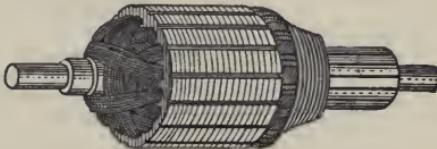
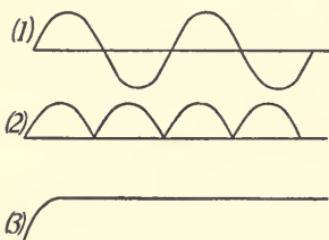

FIG. 289.—A drum armature.
FIG. 292.—Graphic representation of (1) an alternating current; (2) a pulsating current; (3) a continuous current.
insulated copper wire wound in numerous slots cut in the surface of a cylindrical piece of iron. Fig. 289 shows a side view of the iron core of such an armature. Iron is used to form the body of the armature since the magnetic lines of force flow easily through the iron. The iron by its permeability also concentrates and increases the magnetic flux. The best armatures are made of many thin sheets of soft iron. These are called *laminated* armatures. An armature made of a solid piece of iron becomes hot when revolving in a magnetic field. This is due to electric currents induced in the iron itself. This heating is largely reduced by *laminating* the armature. Why?
it continues to flow out of the upper brush. This change in connection at the brushes takes place at each half turn of the armature, just as the current changes in direction in the coils. This is the manner in which the commutator of a dynamo changes the alternating current produced in the armature coils, into a direct current in the external circuit. Fig. 292 (1) represents graphically an alternating current, (2) of the
armature with a corresponding number of segments upon the commutator. (See Figs. 289 and 293.) As each coil and commutator segment passes a brush, it contributes an impulse to the current with the result that armatures with many coils produce currents that flow quite evenly. (See Fig. 292, 3.)
The current represented in Fig. 292 (2) is called a *pulsating* current.